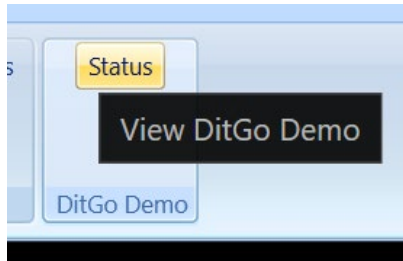
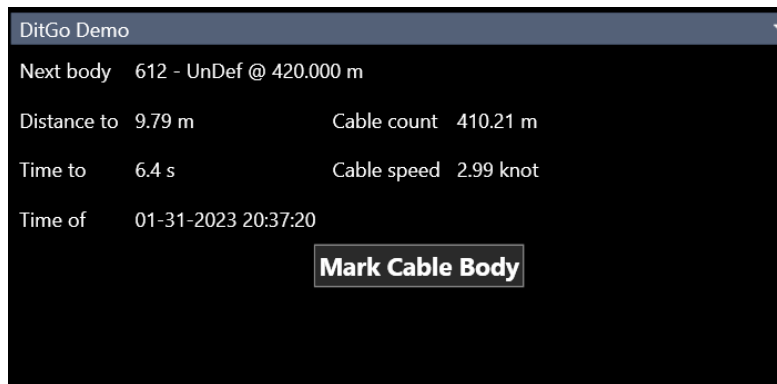

FIGURE 15-24 DITGO VIEW TAB
FIGURE 15-25 DITGO STATUS WINDOW
3. When a DitGo connection is created, a Status is added to the View Tab ribbon (see Figure 15-24). Click “Status”, this will open the DitGo connection status window (see Figure 15-25).